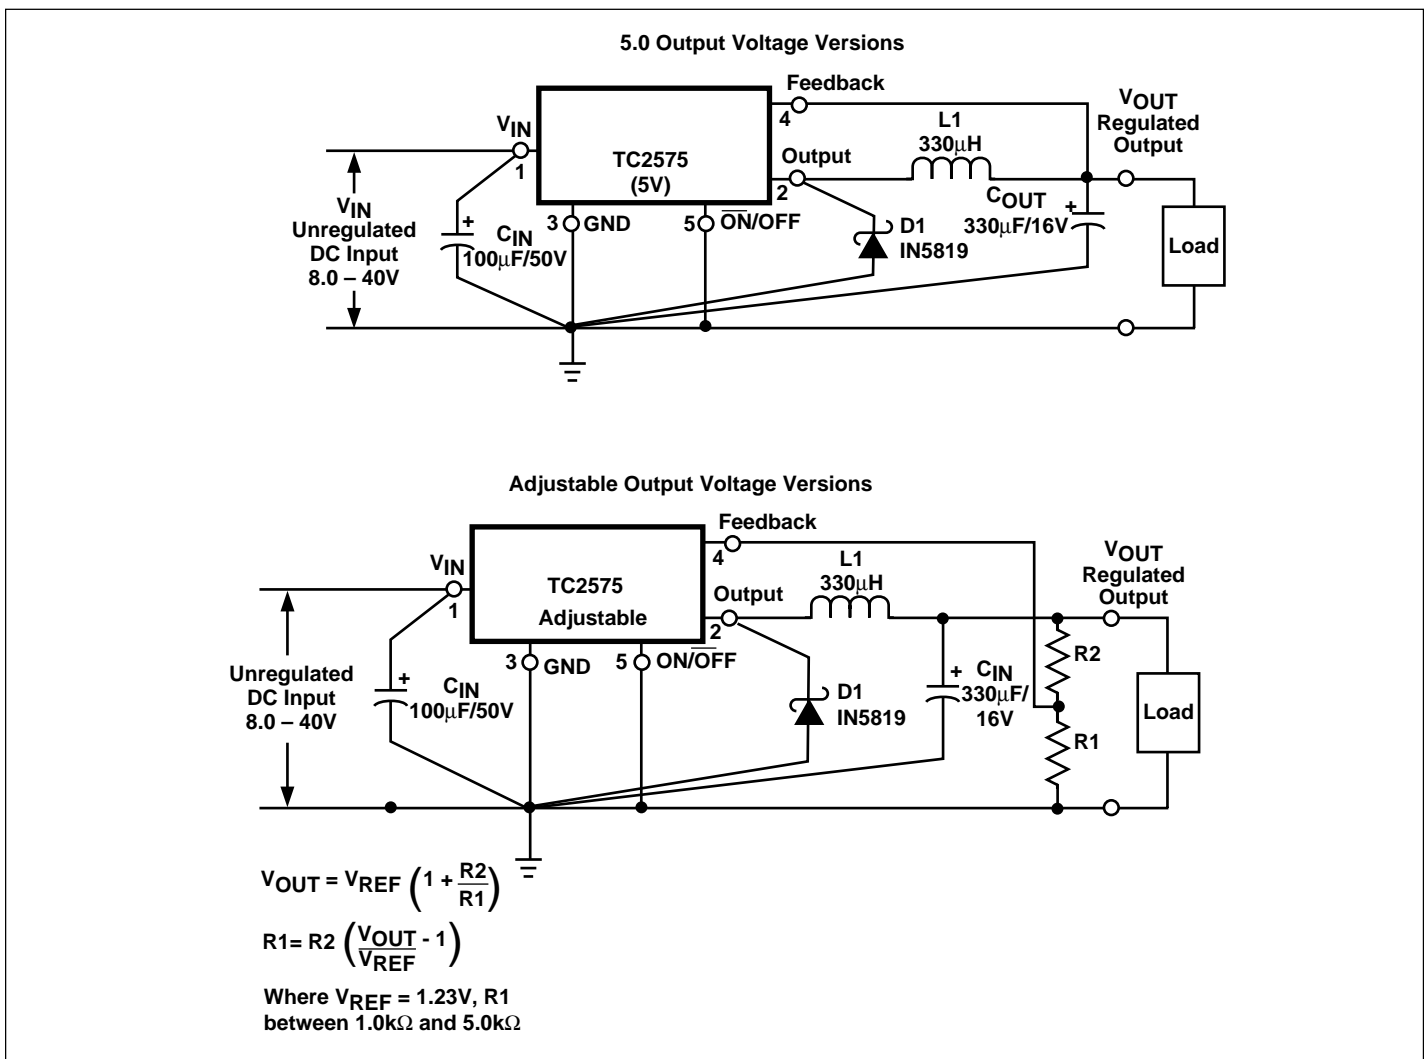

Figure 2. Typical Test Circuit
TC2575-3.3 [(Note 1) Test Circuit Figure 2]
TC2575-5 [(Note 1) Test Circuit Figure 2]
TC2575-12 [(Note 1) Test Circuit Figure 2]
TC2575-Adjustable Version [(Note 1) Test Circuit Figure 2]
- External components such as the catch diode, inductor, input and output capacitors can affect the switching regulator system performance. When the TC2575 is used as shown in the Figure 2 test circuit, the system performance will be as shown in the system parameters section of the Electrical Characteristics.
As in any switching regulator, the layout of the printed circuit board is very important. Rapidly switching currents associated with wiring inductance, stray capacitance and parasitic inductance of the printed circuit board traces can generate voltage transients which can generate electromagnetic interferences (EMI) and affect the desired operation. As indicated in the Figure 2, to minimize inductance and ground loops, the length of the leads indicated by heavy lines should be kept as short as possible.
<p>1. Programming Output Voltage</p> <p>To select the right programming resistor R1 and R2 value (see Figure 2) use the following formula:</p> $V_{OUT} = V_{REF} \left( 1.0 + \frac{R2}{R1} \right) \text{ where } V_{REF} = 1.23V$ <p>Resistor R1 can be between 1.0kΩ and 5.0kΩ. (For best temperature coefficient and stability with time, use 1% metal film resistors).</p> $R2 = R1 \left( \frac{V_{OUT}}{V_{REF}} - 1 \right)$	<p>1. Programming Output Voltage (selecting R1 and R2)</p> <p>Select R1 and R2</p> $V_{OUT} = 1.23 \left( 1.0 + \frac{R2}{R1} \right) \text{ Select } R1 = 1.8k\Omega$ $R2 = R1 \left( \frac{V_{OUT}}{V_{REF}} - 1.0 \right) = 1.08k \left( \frac{8.0V}{1.23V} - 1 \right)$ <p>R1 = 9.91kΩ, choose a 9.88kΩ metal film resistor.</p>